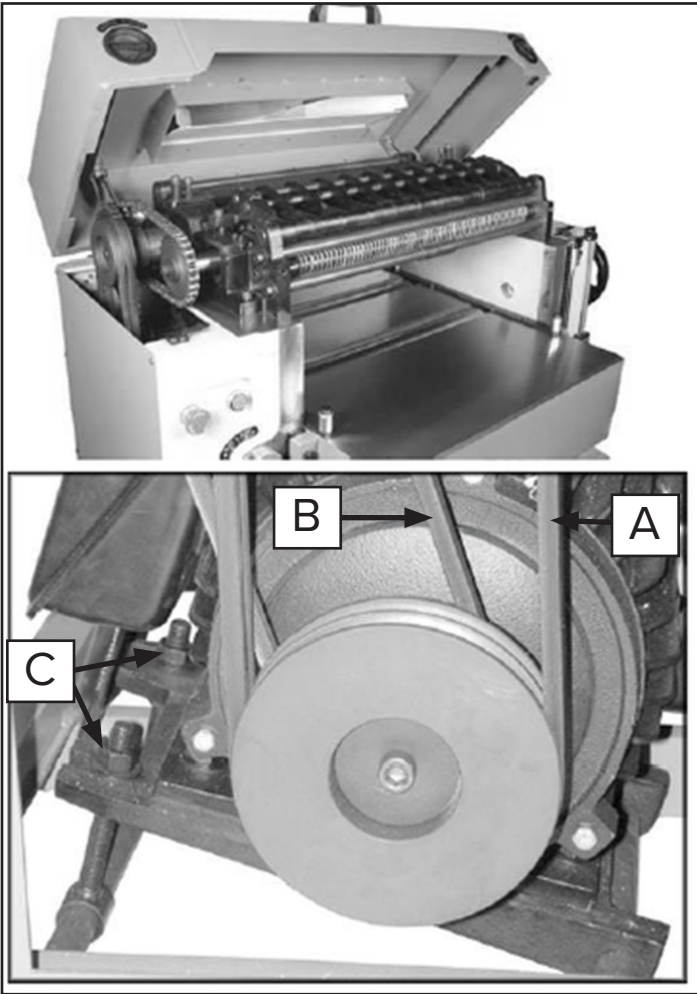

Figure 18: Adjusting the V-Belt.
The cutterhead is driven by two V-belts (A, Figure 18), while a single V-belt (B, Figure 18) drives the in-feed and out-feed rollers. The factory sets the belt tension, but if an adjustment is needed due to belt stretching:
3. Loosen or tighten the four adjustment nuts (C, Figure 18) to move the motor plate up or down and adjust the belt tension. Secure the nuts against the motor plate after adjustment.